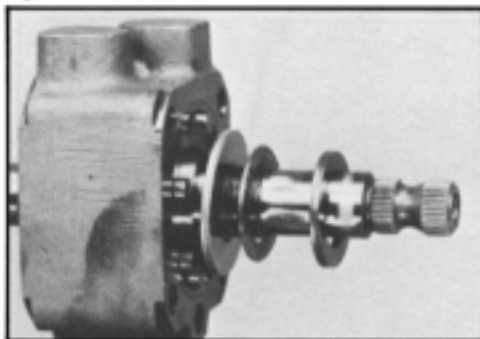

Figure 108
9. Assemble the other thrust washer (14), thrust bearing (13) and thrust washer (12) onto the input (serrated) end of worm shaft (23) and against the valve spool (15B). SEE FIGURE 108.